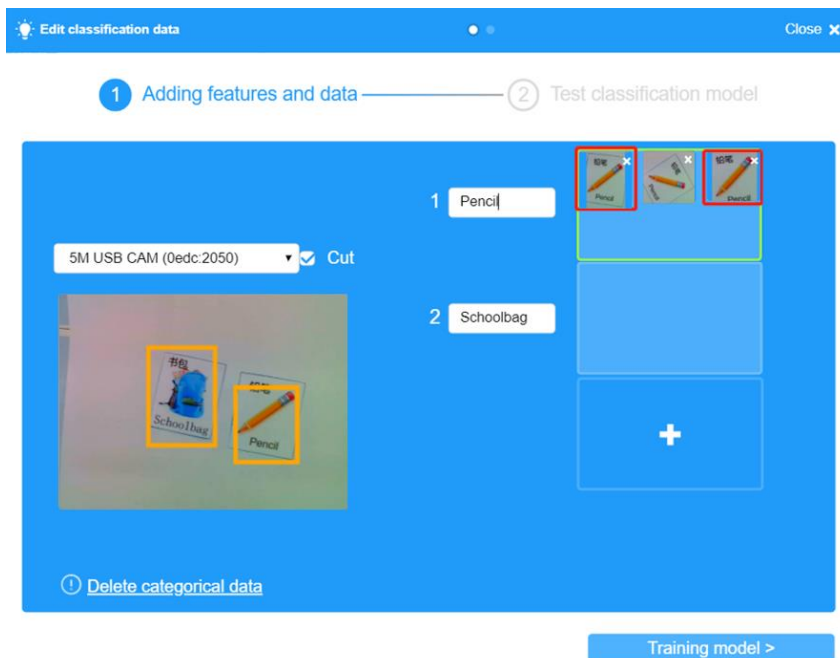

Figure 4.6 Collecting the image data
Step 8: Collect data. Click the segmented image. To make picture recognition more accurate, move the stationery card, and add the stationery cards at different angles, as shown Figure 4.6.